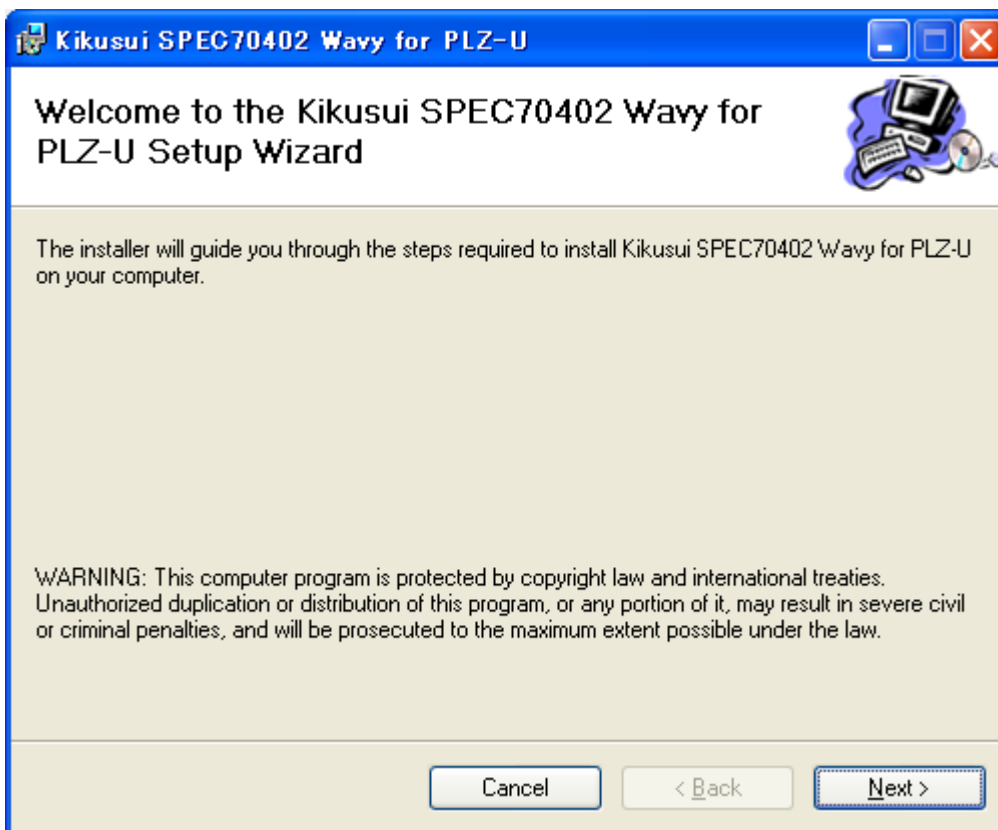

Fig. 2-1 Setup Start Screen
- (1) Insert the provided CD-ROM into the CD-ROM drive of the personal computer.
- (2) The Setup Start screen, shown in Fig 2-1, should appear automatically after a few moments. If it does not appear, run the "Setup.exe" file on the CD-ROM.